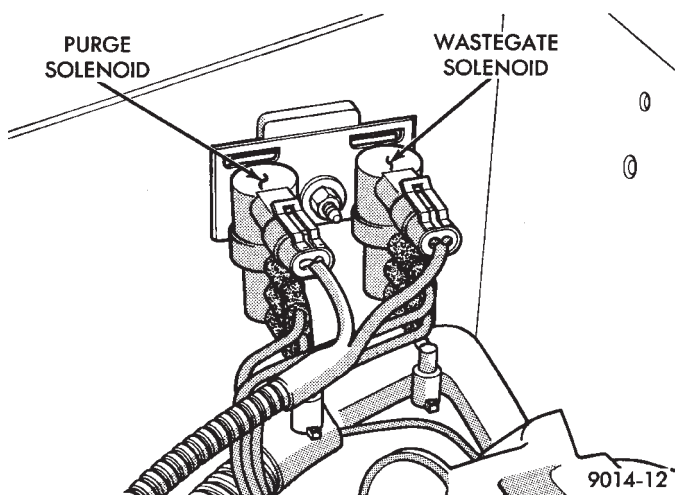

Fig. 3 Solenoid Connections
- (2) Verify the harness connector is attached to the canister purge solenoid (Fig. 3).
- (3) Verify the harness connector is attached to the wastegate solenoid (Figs. 3).
(5) Check vacuum hose connections between vacuum source and canister purge, wastegate, and barometric read solenoids (Figs. 3 and 4).